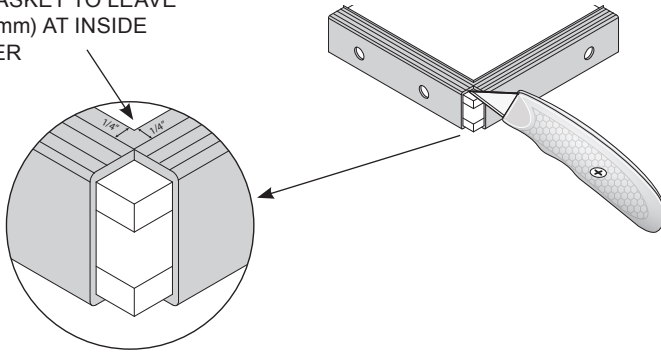

FIG. 4
1. Starting at the center top, wrap the glazing gasket around the perimeter of the glass. Cut partially through the gasket at the glass corners as shown. (FIG. 4)